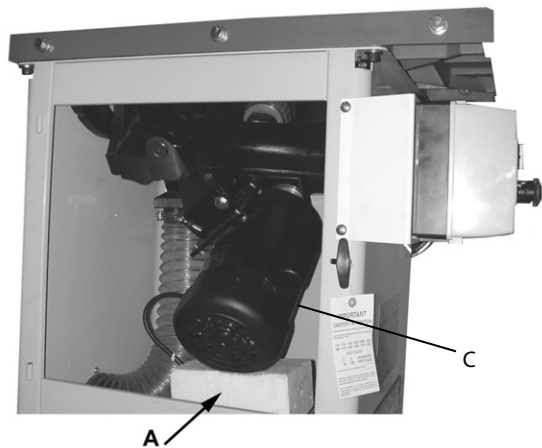

Figure 7
Refer to Figures 7, 8, and 11.
1. Remove foam block (A) securing the motor (C) to table. Refer to Figure 7.